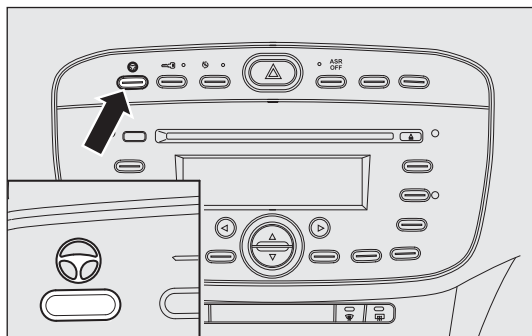

fig. 117
- the word CITY lit up on the button after it has been pressed fig. 117.